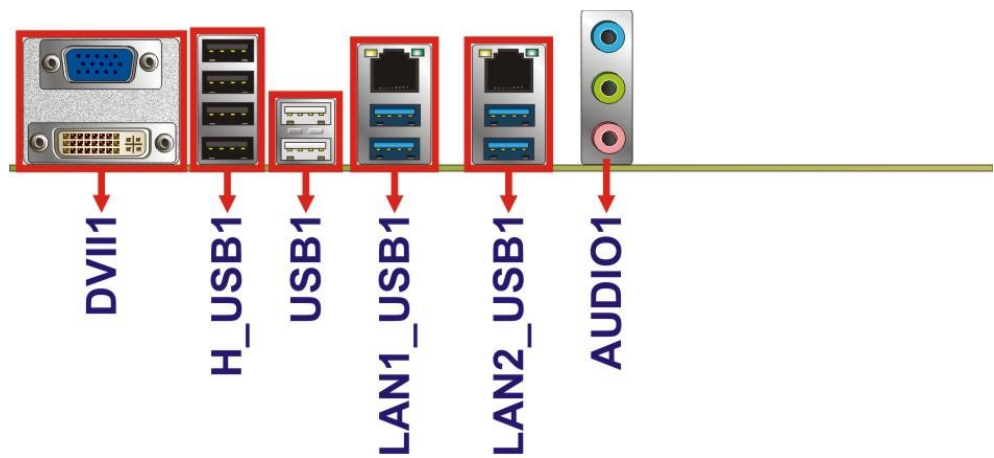

Figure 3-34: External Peripheral Interface Connector
CN Location:	See Figure 3-34
CN Location: See Figure 3-34
- CN Location:See Figure 3-34
- CN Location:** See **Figure 3-34**